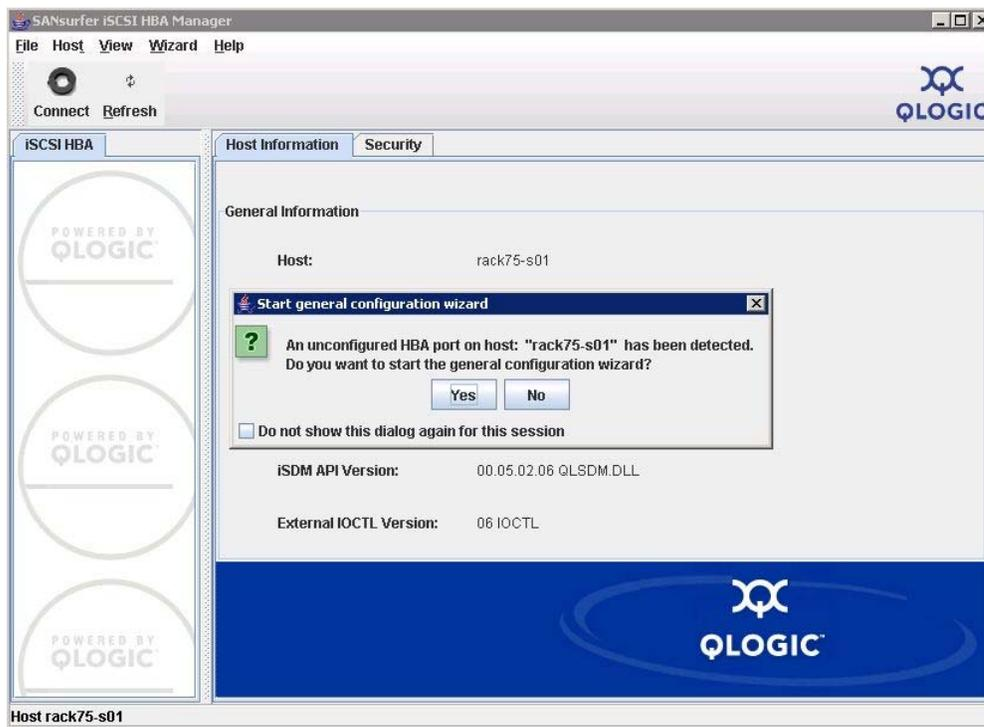

Figure 58 Start general configuration window
2. Click **Yes** to start the general configuration wizard (see Figure 58). Use the Wizard to: